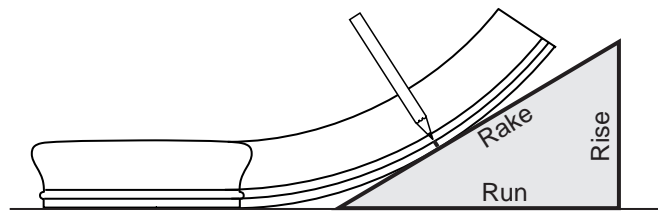

Fig. 3-20 Marking location of cut line on up easing of starting fitting.
2. Slide the pitch block with “run” side down against the up-easing and mark a small line where the block touches the fitting to locate cut line. Please note Fig. 3-20 here.